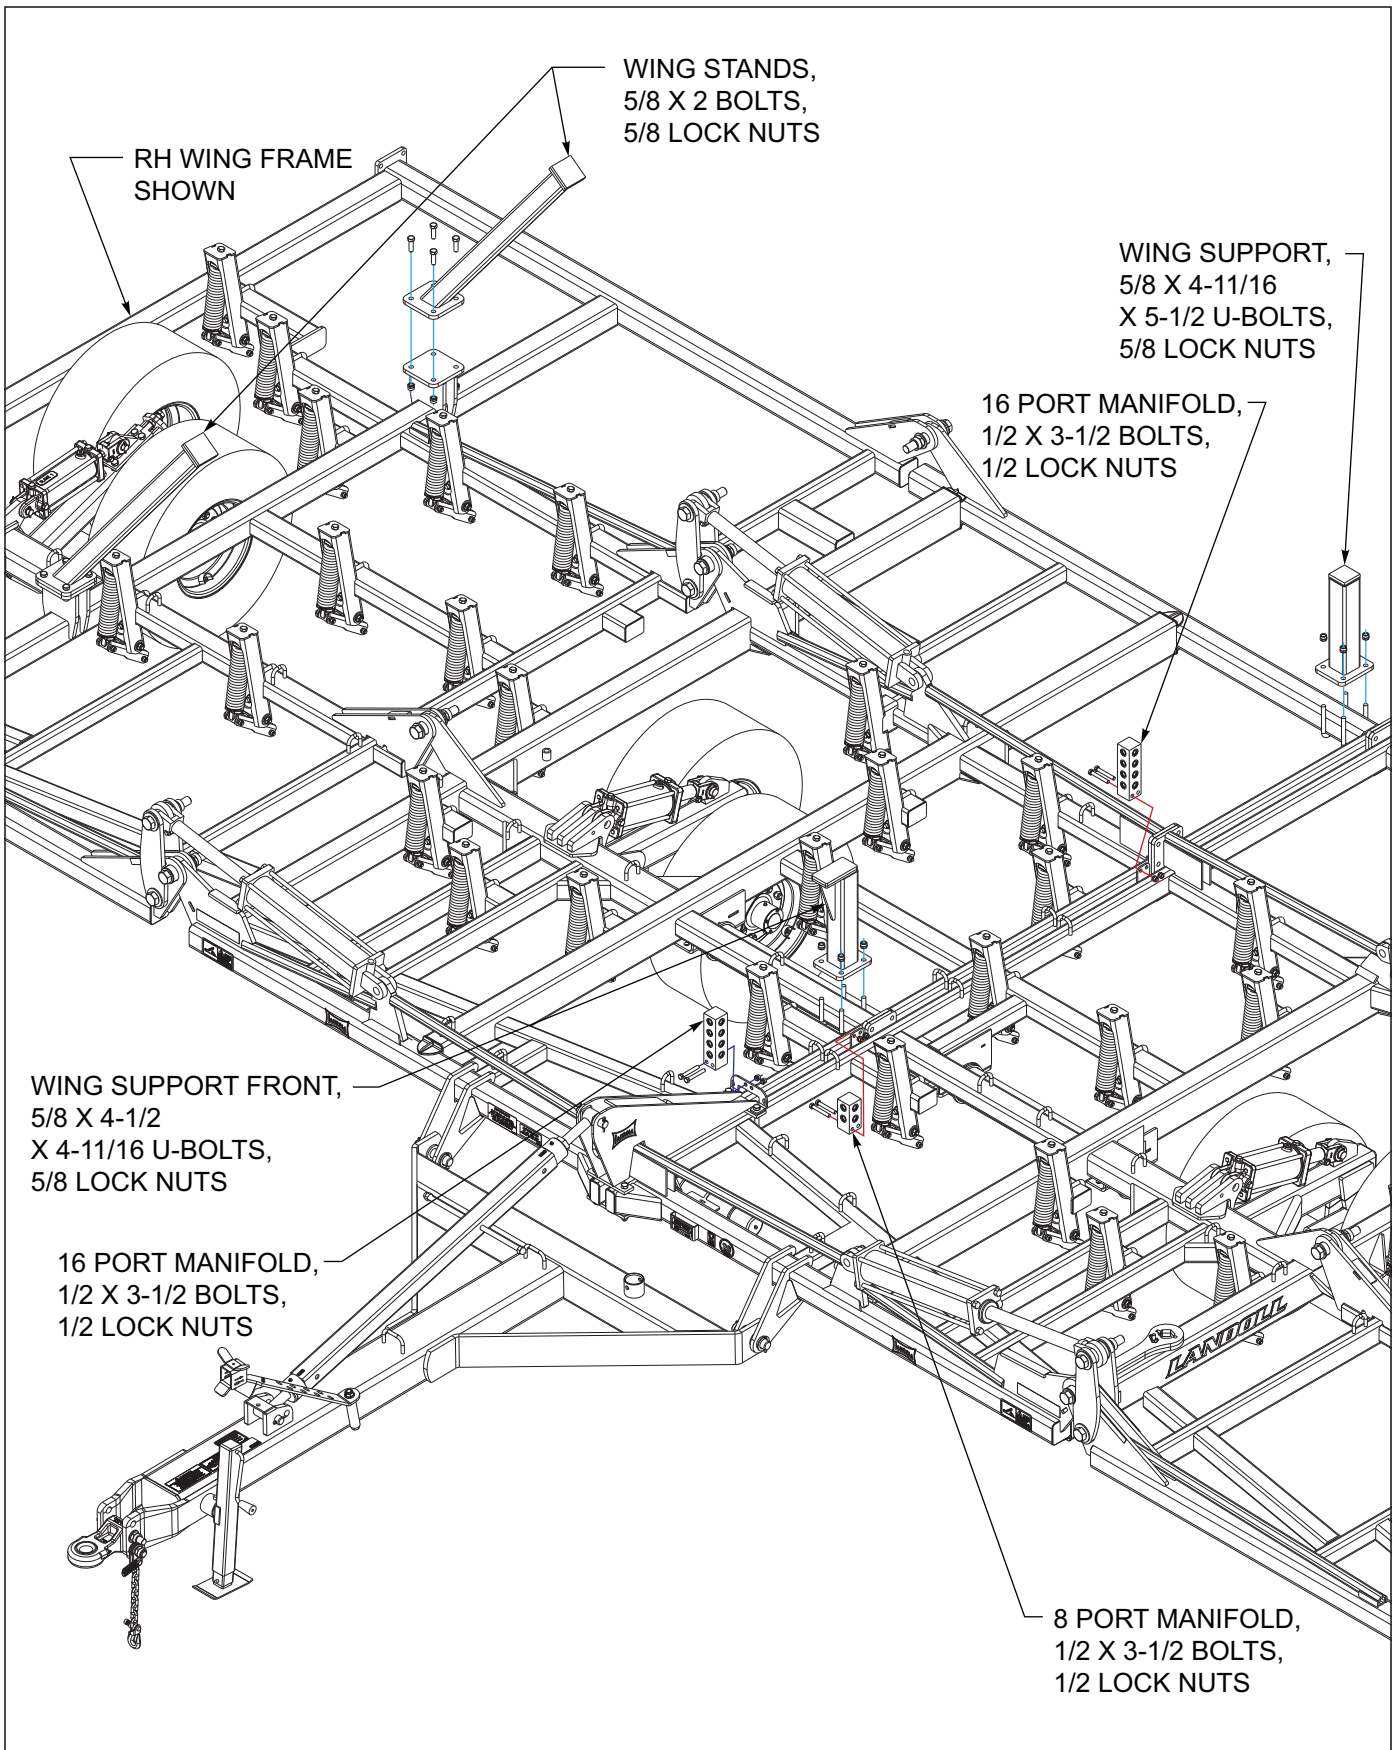

Figure 3-8: Wing Support Assembly 35'
2. **See Figure 3-8** for 35' models, assemble the wing supports to the RH center frame using 5/8 x 4-11/16 x 5-1/2 u-bolt, rear, 5/8 x 4-11/16 x 4-1/2 u-bolt, front and 5/8 lock nuts and to the RH wing frame using 5/8 x 2 bolts and lock nuts (**See “Wing Supports Placement 35’ RH” on page 3-15.**).